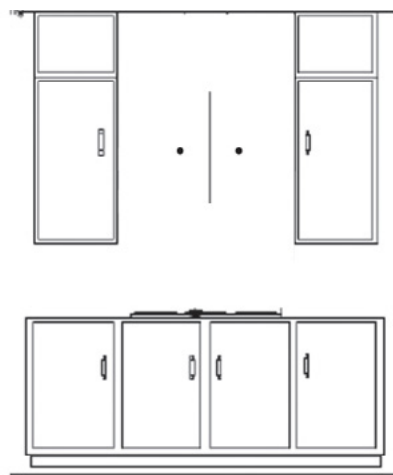

Figure 1
1. Find the center of the wall where you are installing the hood. Make sure there is sufficient bracing to hold the weight of the hood. Mark your center line and measure out from the center to find your two mounting points. Make sure your mounting points are level when you mark them. It is recommended to install the hood directly into wood supports. *Figure 1*
2. Mark the mounting points and install the two mounting screws provided leaving the heads out 1/4" to mount the hood. *Figure 1*